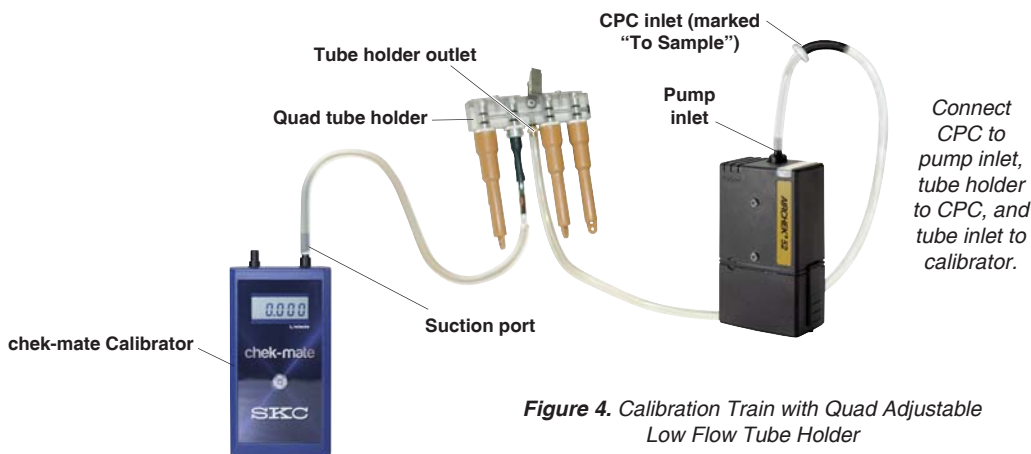

Figure 4. Calibration Train with Quad Adjustable Low Flow Tube Holder
1. Attach the tubing on the CPC outlet (side of the CPC without a label) to the pump inlet. Attach the Adjustable Low Flow Holder to the CPC inlet (marked "To Sample"). See Figure 4.